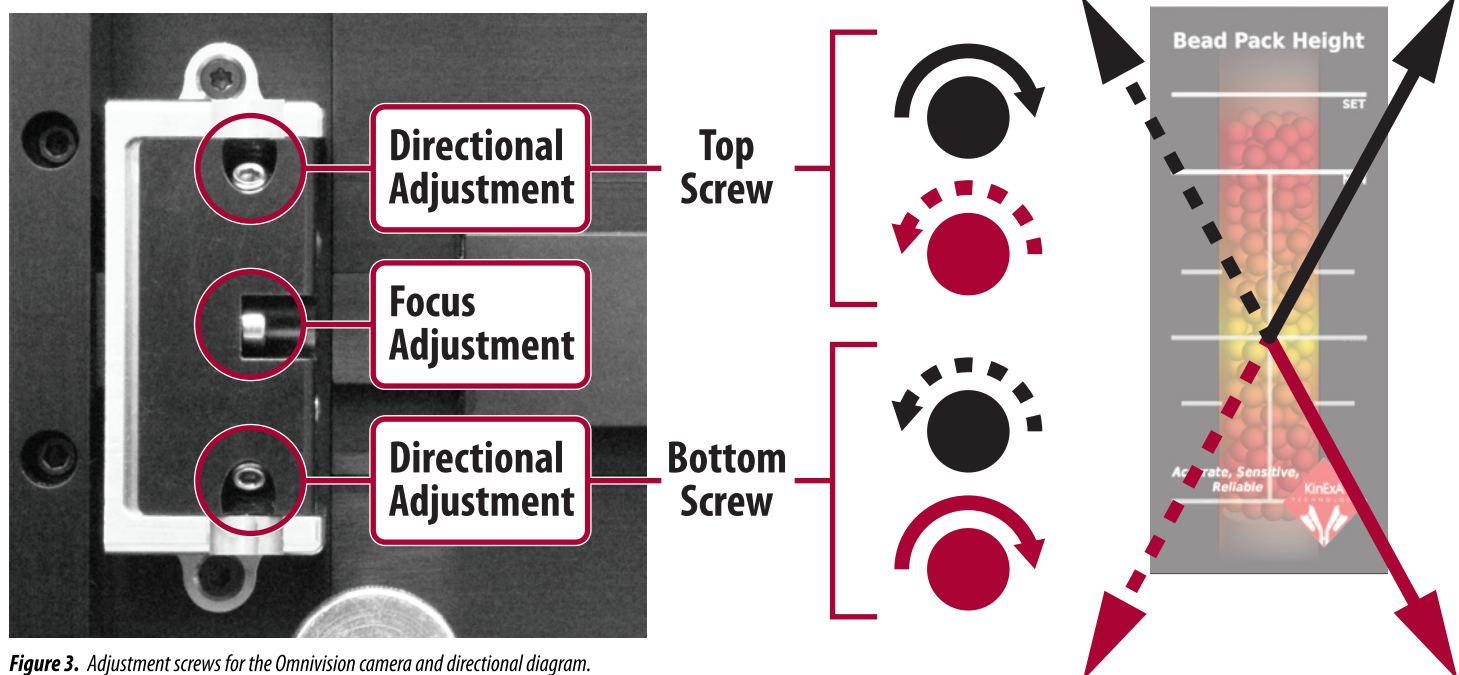

Figure 3. Adjustment screws for the Omnivision camera and directional diagram.
7. Use **Figure 3** to identify the adjustment screws of the camera.
9. Use the directional adjustment screws to **vertically align the bright spot of light** and to **horizontally align the flow cell** in the center of the grid lines (**Figure 2B**). The camera does not move straight up, down, left, and right. **Figure 3** shows how turning the top and bottom screws will move the camera image seen in the software (**Figure 2B**). There is a slight delay in response on the computer monitor so be patient for the screen to update after slight movements. If preferred, the camera view can be zoomed by clicking the magnifying glass icons to the upper right of the camera image.